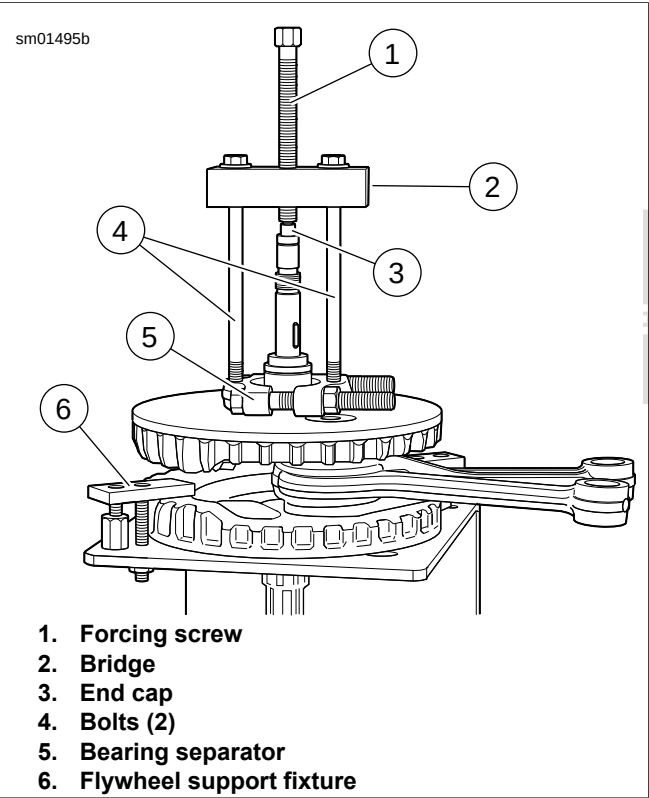

Figure 3-125. Pulling Pinion Shaft Inner Bearing
See Figure 3-125. To remove pinion shaft inner race, use BEARING SEPARATOR (Part No. Snap-on Tools Stock No. CJ950), three items from END CAP (Part No. HD-34902-7), BRIDGE (Part No. J-7830-5) and FORCING SCREW (Part No. J-21686-12), and two bolts. Apply heat to race to aid removal.
10. See Figure 3-125. Pull inner race from pinion shaft using BEARING SEPARATOR (Part No. Snap-on Tools Stock No. CJ950), three items from END CAP (Part No. HD-34902-7), BRIDGE (Part No. J-7830-5) and FORCING SCREW (Part No. J-21686-12), and two bolts. Apply heat to race to aid removal.